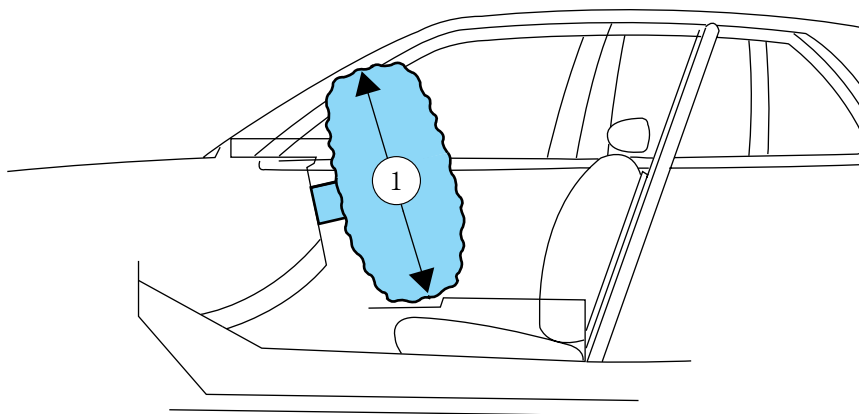

Figure 2
3. Area in front of center console from bottom of ashtray to top of instrument panel (see Figure 2 for dimensions)